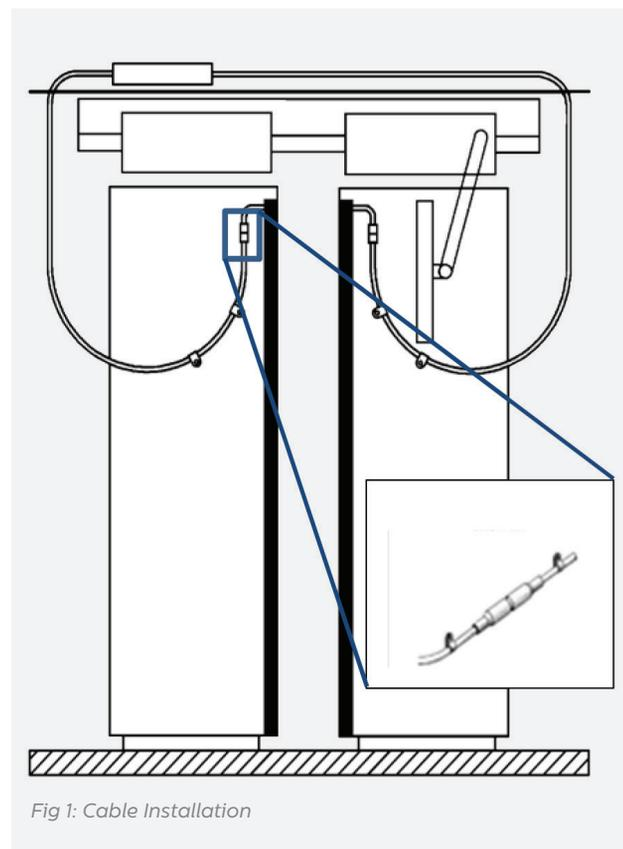

Fig 1: Cable Installation
4. Connect the Transmit (TX) & Receive (RX) leads into the controller sockets marked.
5. On completion, carefully open & shut the doors by hand to check the travelling cable (O15 455) has a smooth free movement & is not liable to snag on anything during normal operation, otherwise there is a risk of leads being damaged by the lift doors or caught up when the lift moves. See Fig1.